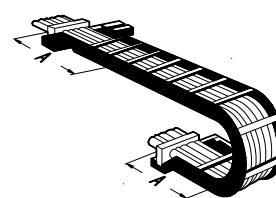

Fig. 1
8. Fasten the cables at both ends of the chain (→ Fig. 1).